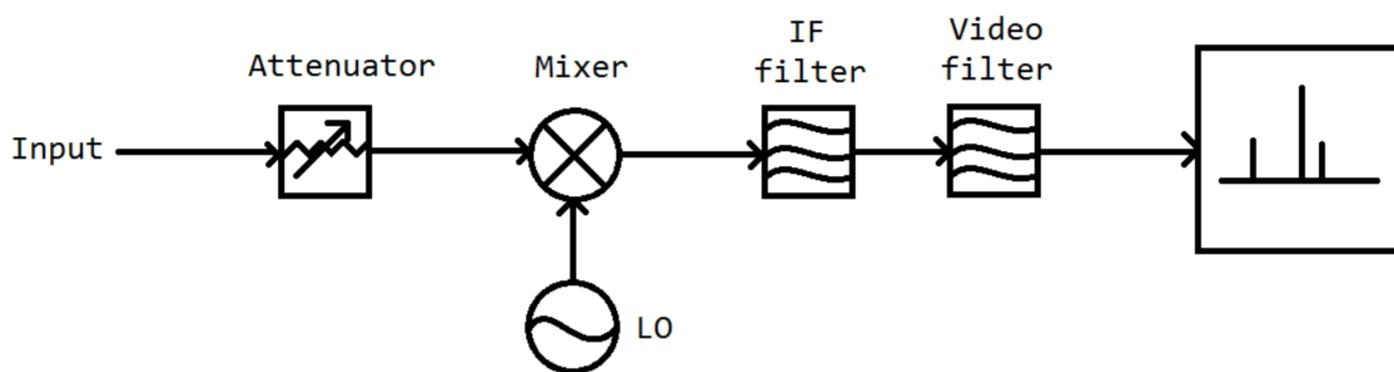

Figure 1. Functional components of a Heterodyne Spectrum analyzer [1, s. 220].
A simplified structure of heterodyne type spectrum analyzer is shown in Figure 1. The first component of the Spectrum analyzer is the attenuator. The attenuator allows to study high power signals that otherwise would damage the input amplifiers. After the attenuator is the mixer, whose task is to combine the input signal with local oscillator (LO) frequency and to shift the signal to an intermediate frequency (IF). The